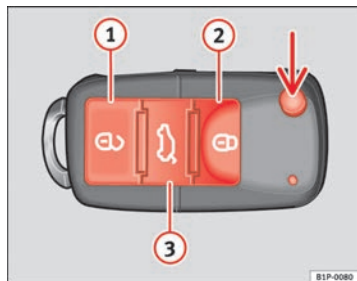

Fig. 62 Assignment of buttons on the remote control key
Using the button  \Rightarrow fig. 62 (arrow) on the control, the key blade is released.
Unlocking the vehicle  \Rightarrow fig. 62 ①. The doors and the tailgate are unlocked.
Locking the vehicle  \Rightarrow fig. 62 ②.
Unlocking the tailgate. Press button  \Rightarrow fig. 62 ③ until all the turn signals on the vehicle flash briefly. When the unlocking button  ③ is pressed, you have 2 minutes to open the door. Once this time has passed, it will lock again.
Also, the battery indicator on the key \Rightarrow fig. 62, will flash.
- Press the  ⇒ page 106, fig. 62 button on the remote control.